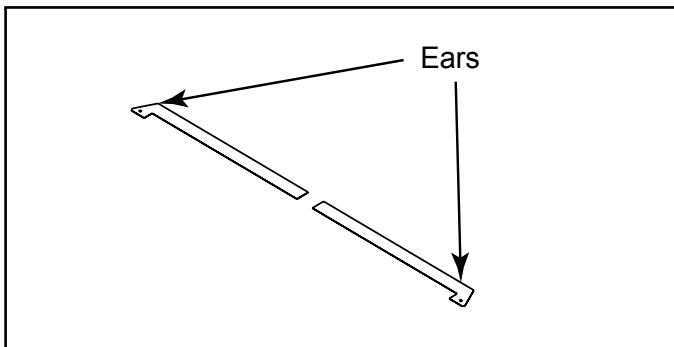
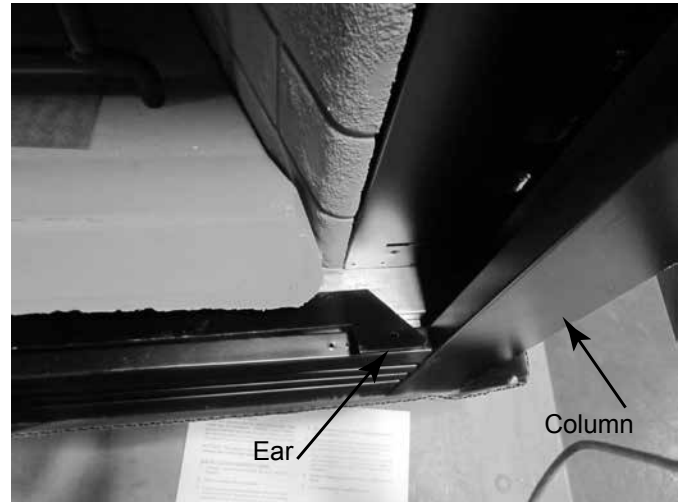

Figure 3 Front Fillers
Figure 4
4. Lift up front of the hearthstone. While pulling stone forward, hold it up and slip both front fillers under the stone making sure the ears fit in behind the sides of the appliance. Push and sit the stone back into the appliance. See Figure 3 and Figure 4.